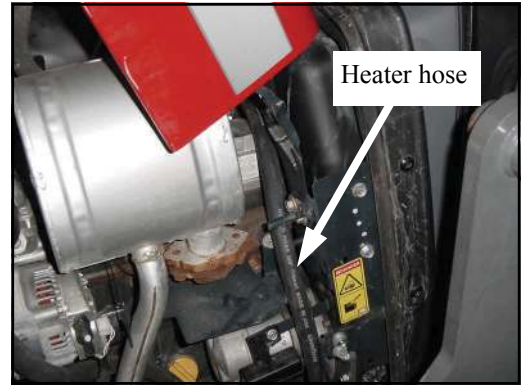

FIG 4
D. Run the supplied heater hose from the T fitting along the rightside of the engine compartment and over the back of the engine behind the muffler as shown in figure 4. Continue through one of the holes in the cowl, cut to length and attach to heater with small hose clamps. **CAUTION: Make sure hose does not rub against the exhaust.**